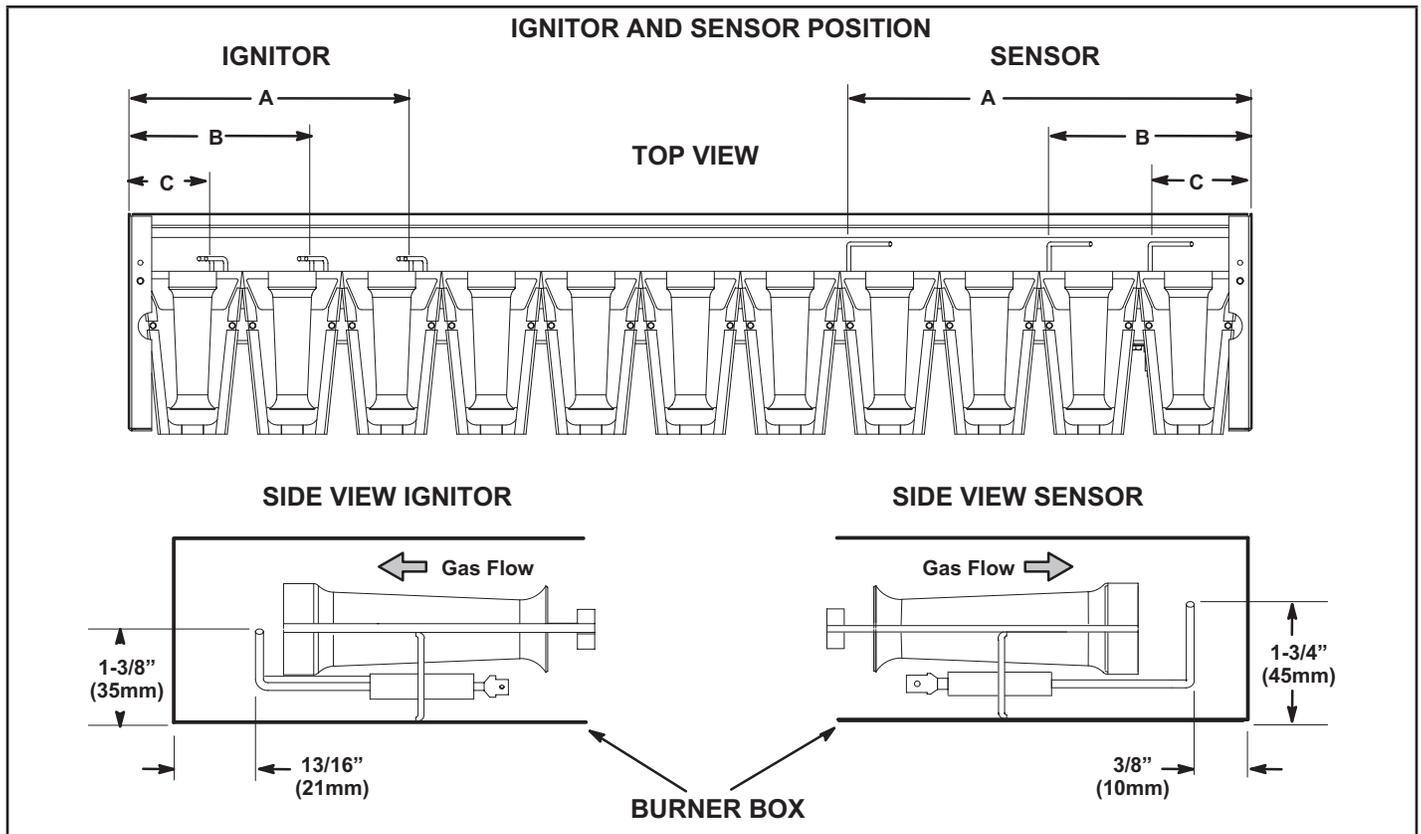

FIGURE 27
- 5 - Check the alignment of the ignitor and the sensor as shown in FIGURE 27 and TABLE 25.